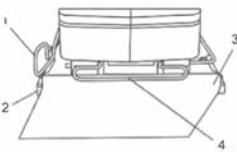
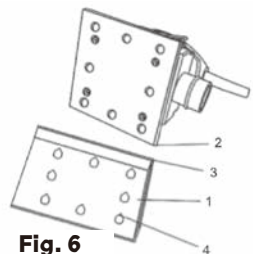

Fig. 4
Fig. 6
1. Lift up and outward on the front and rear sandpaper clamp levers (1) at the front and rear of the backing pad (Fig. 4).
2. Insert one end of the ¼ sheet sandpaper (3) with grit side up into the open front sandpaper clamp (4), making sure it is aligned with the backing pad. Lift the sandpaper clamp lever up and inward to lock the sandpaper into the clamp.
1. Install the sandpaper as shown in Fig. 4 & 5 on a sturdy flat surface (Fig. 6).
2. Align the corner of the sanding pad (2) with the corner of the hole punch (3). This will ensure the holes are punched in the correct location.